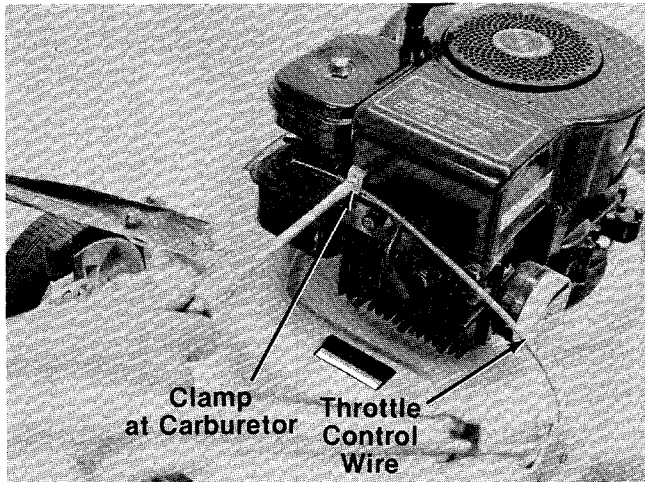

FIGURE 16.
1. Loosen clamp at carburetor that holds the cable housing. See figure 16.